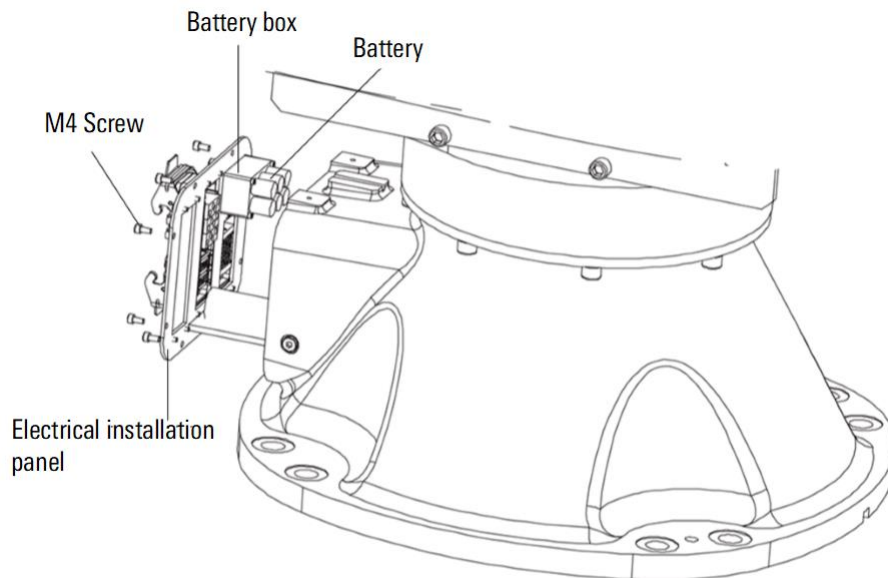

Figure 10-5 Diagram of disassembling and installing electrical control panel
- Step3. Remove the M4 screws, remove the operation electrical installation board, and dismantle the battery box, as shown in Figure 10-5.